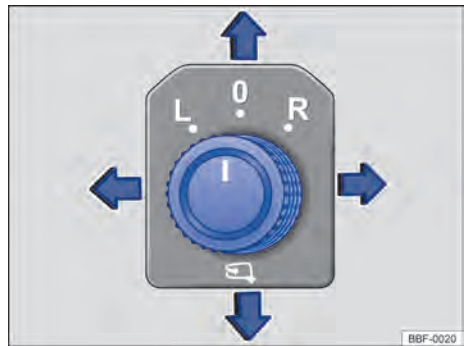

Fig. 81 On the driver door: rotary adjusting knob for the electric exterior mirrors.
- Rotate the rotary knob in the driver door until reaching the desired icon → Fig. 81.